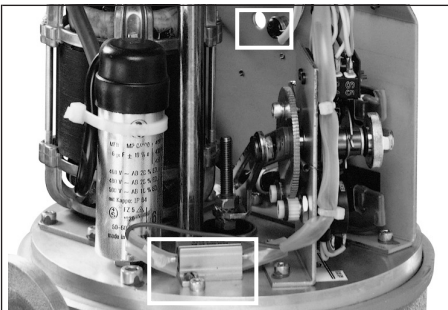

Fig. 21 · Heating resistor R (bottom), thermostatic switch TW (background, top)
- Attach the heating resistor at the intended location (refer to Fig. 21) using the two included self-cutting screws.